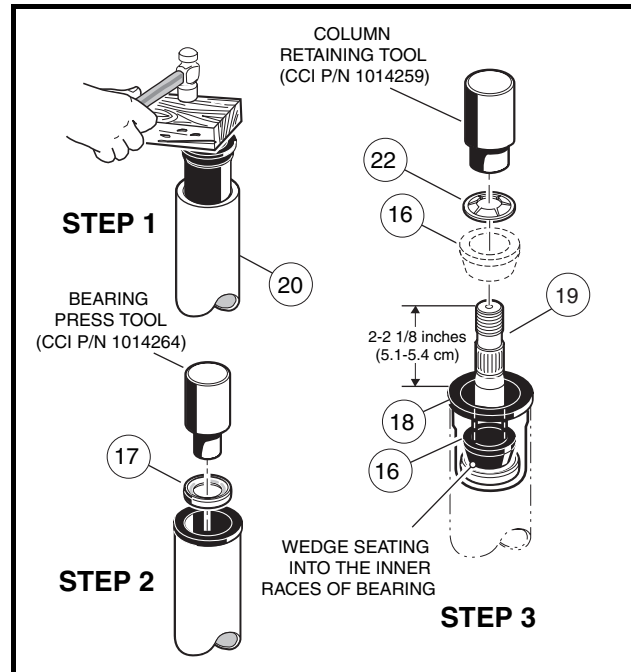

Figure 7-5 Steering Shaft – Top End
5. Turn the assembly over and place the shaft (19) on a bench. Install the wedge (16) and retaining ring (22) onto the top of the shaft (**Figure 7-5, Page 7-5**). Be sure the prongs on the retaining ring face up and away from the wedge. Use a steering column retaining ring tool (CCI P/N 1014259) to seat the retaining ring to the proper depth. Support end of tube while pressing. If you do not have the recommended tool, use the same tube as was used in step 2 to press the retaining ring onto the top of the shaft. The retaining ring should be pressed onto the shaft until 2 to 2-1/8 inches (5.1-5.4 cm) of the shaft extends from the top of the bearing seat in the steering tube (**Figure 7-5, Page 7-5**).